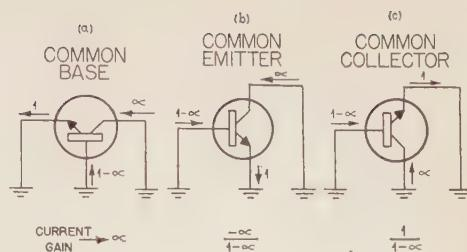

Fig. 11
emitter and (3) common collector, ground collector. These connections are shown in Figure 11; only the currents are shown to simplify explanation of the current gains. If the circuits, we assume an input applied to left and the output on the right, we can derive an expression for the current amplification for each. If the currents of emitter and collector are 1 and a respectively, obviously the collector currents must be $1-a$ as shown to satisfy Kirchoff's current law. Dividing the output currents by the input currents we obtain current gains as follows: For the common base we get a , for the common emitter connection we get $\frac{-a}{1-a}$ and for the common collector we get $\frac{1}{1-a}$.
For the grounded emitter there is 180° phase shift and the sign of the current gain expression is negative. Figure 11 shows the above examples with their respective current expressions.